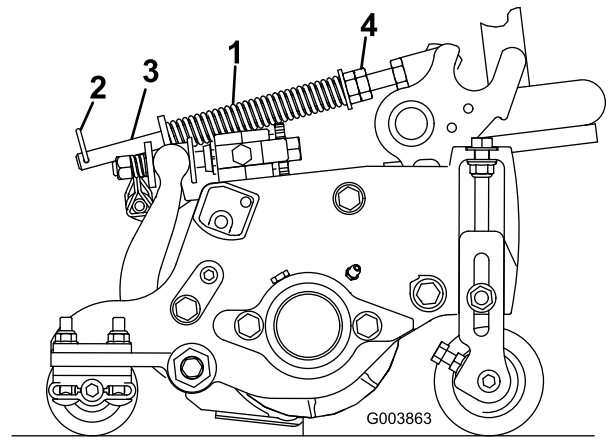

Figure 15
The turf compensation spring (Figure 15) transfers weight from the front to the rear roller. (This helps to reduce a wave pattern in the turf, also known as marcelling or bobbing.)
1. Make sure the hairpin cotter is installed in the rear hole in the spring rod (Figure 15).
2. Tighten the hex nuts on the front end of the spring rod until the compressed length of the spring is 12.7 cm (5 inches) on Reelmaster 5410, 5 inch cutting units or 15.9 cm (6.25 inches) on Reelmaster 5510, 7 inch cutting units (Figure 15).